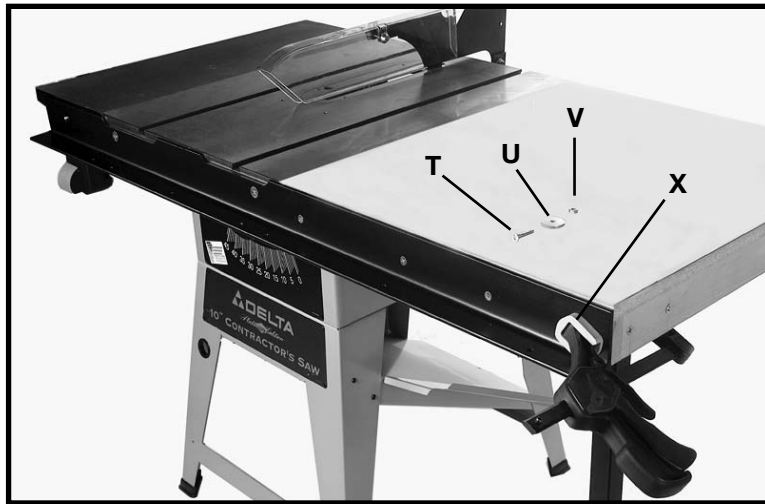

Fig. 87
11. After the holes have been drilled in the edge of the front and rear extension table board, fasten both front and rear rail to table using the 1-1/2 flat head Phillips screws (T) Fig. 87, 1-1/4 O.D. flat washers (U) and hex nuts (V). **NOTE:** The 1-1/4 flat washer cannot be used on the end holes (X).